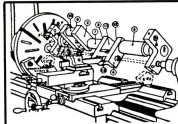

Fig. 41.—Turning a Two-Thread 90° Square Threaded Rod.
1. Rough turn blank. Work on regular centers A & B. Fig. 41.